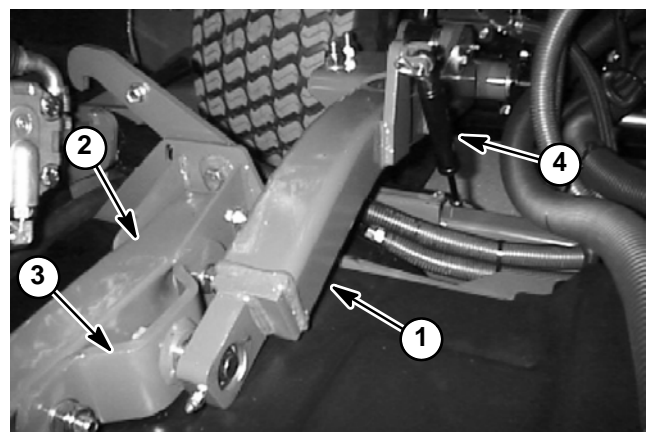

Figure 4
B. If rod ends were removed from damper, apply Loctite #242 to threads and install on damper. Install damper assembly to lift arm with damper rod end toward deck (Fig. 4).